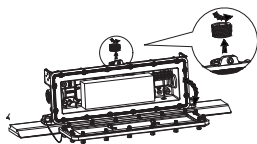

Figure 14
1. Remove the plugging screw (Figure 14).